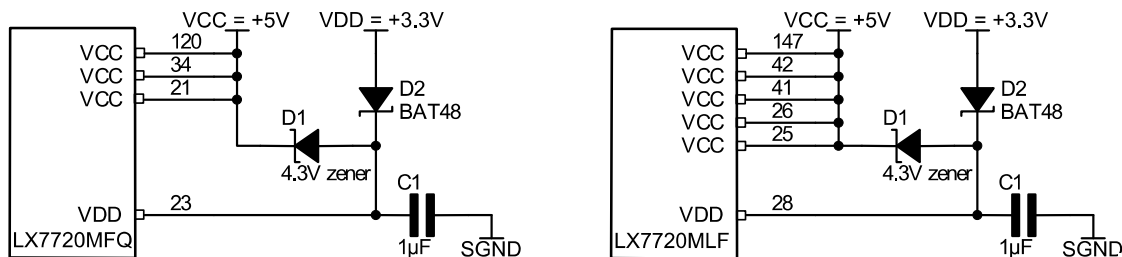

Figure 4. Zener diode VDD biasing for fast start-up with VCC
- VDD can be biased from the 5V VCC rail by fitting a Zener from VCC (+5V) to VDD. If a moderate power rated Zener is used, the voltage drop will be lower than the nominal zener voltage rating due to the relatively low operating current. For example, a 4.3V 1W 1N4731A Zener is specified at 58mA. When used in the circuit of Figure 4 below, the voltage drop was 3.5V with 0.5mA current, therefore biasing VDD to 1.5V
- Figure 4 shows VDD being fed through a Schottky diode D2 to isolate other 3.3V loads (and their capacitance) from the Zener D1. If the LX7720 has its own independent 3.3V supply, D2 can be omitted